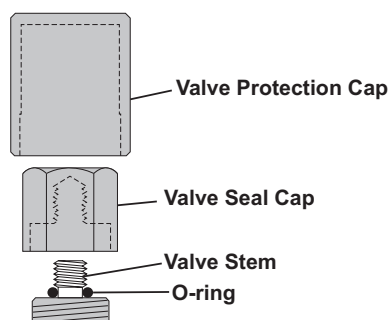

Figure 36
4. Remove the valve protection cap and the valve seal cap from the accumulator that you will charge first (Figure 36).